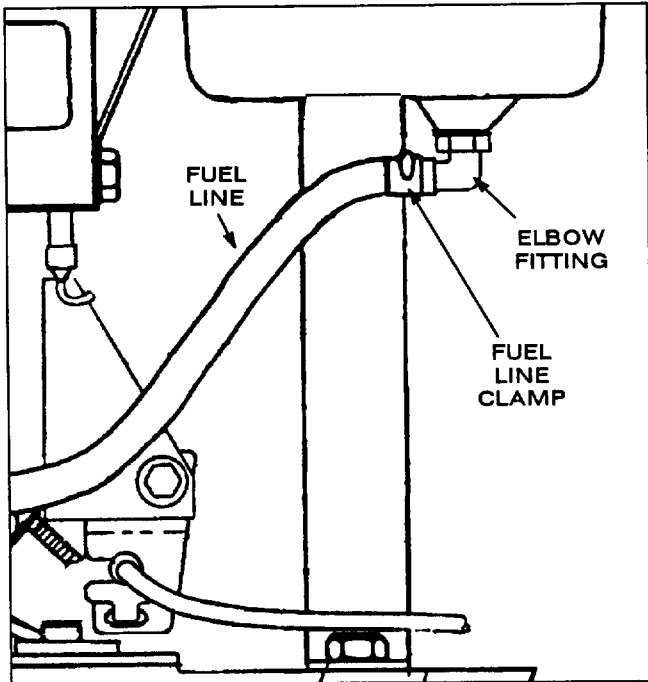

Figure 4
- Slide end of fuel line onto elbow fitting. Secure in place with fuel line clamp (Fig. 4).